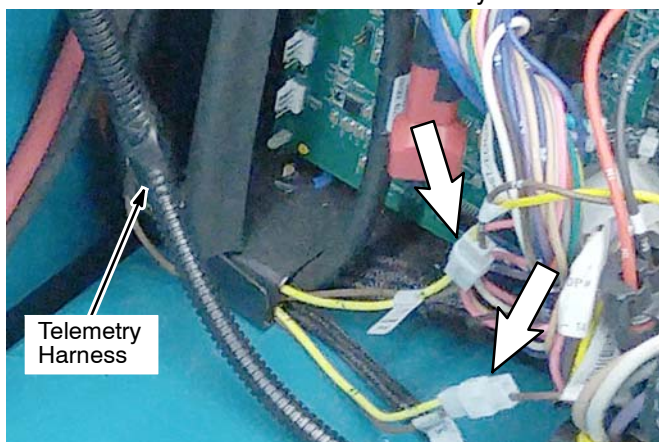

FIG. 4
3. Disconnect the two brown and yellow wire connectors from the existing telemetry harness (FIG. 4).